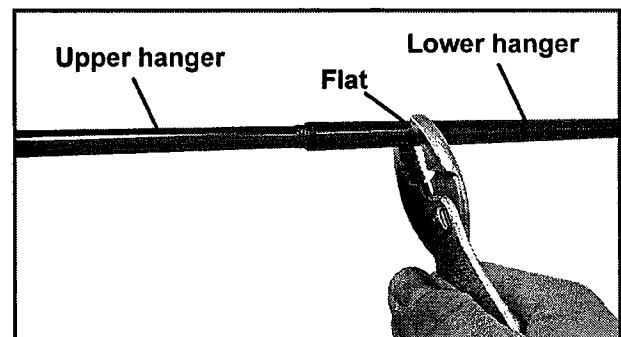

FIGURE 11
9. Screw the lower hanger onto the threads of the upper hanger, as shown in Figure 11. A flat has been placed on the lower hanger for use of a wrench to help in the attachment.